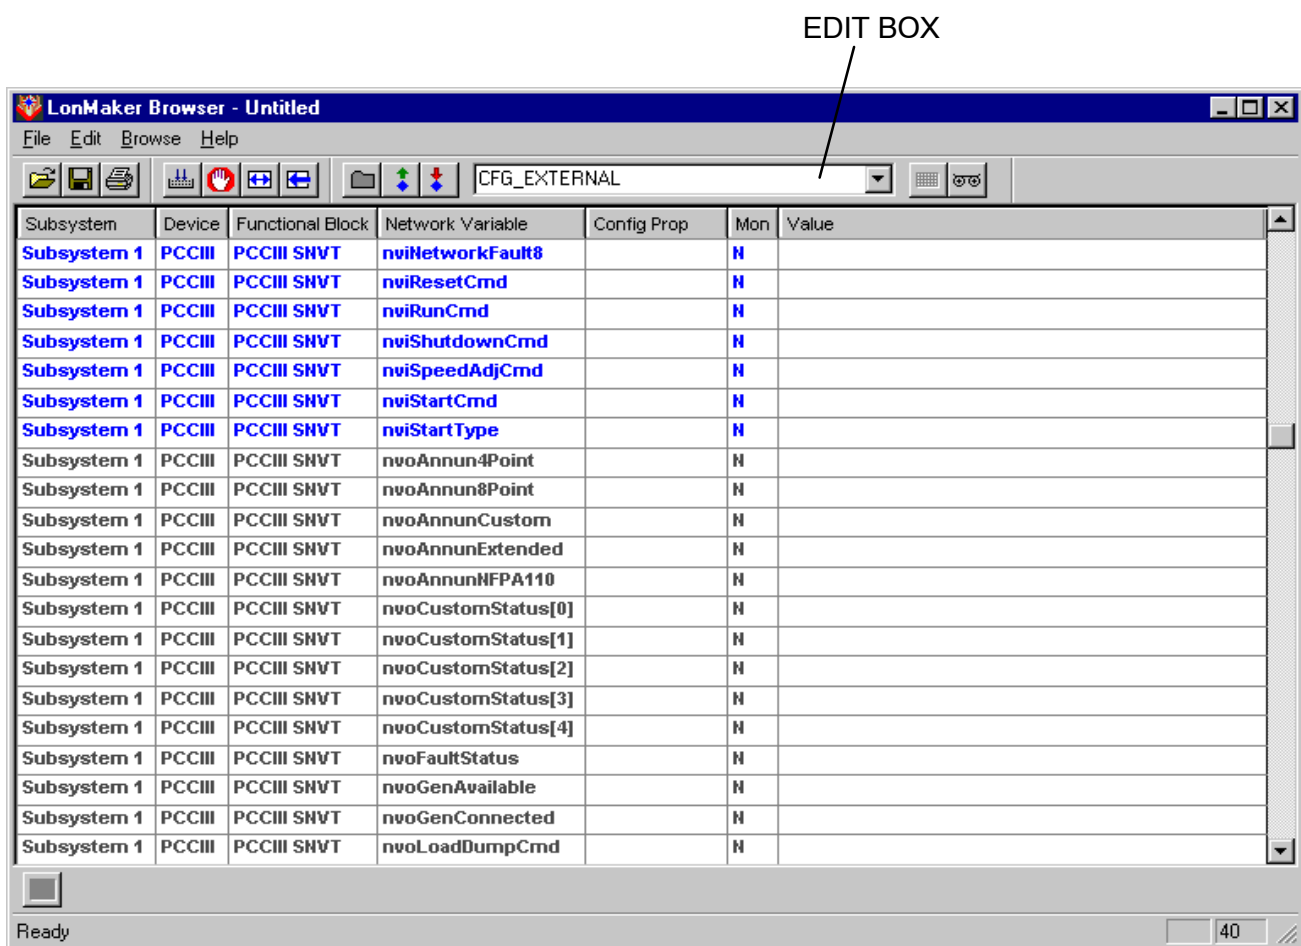

FIGURE 4-15. LONMAKER BROWSER
7. Click on nviNodeLocation. Information on this variable is displayed in the edit box (See Figure 4-15). The first seven numbers (hex character codes) represent the site name. If any of the numbers are “32” (hex character for a space), change them to “0.”
To view the LonMaker browser (see Figure 4-15) and change values, select the device, right click, and select “Browse.” For more information on the LonMaker browser, see the LonMaker User’s Guide.